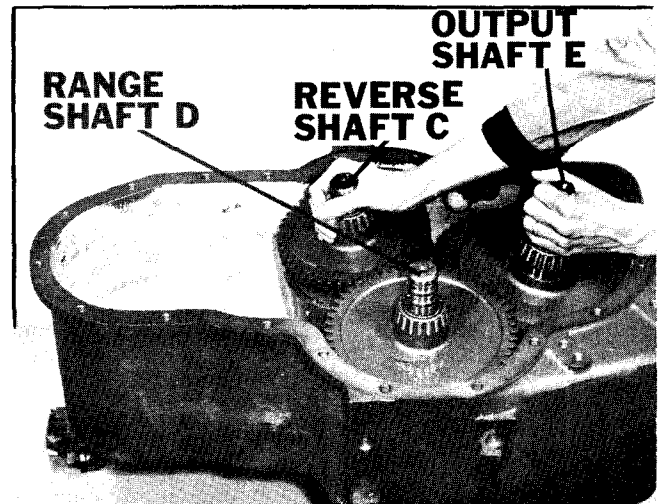

Figure 14
23. Push on reverse shaft (C) and pull on output shaft (E) simultaneously to separate. (Figure 14)